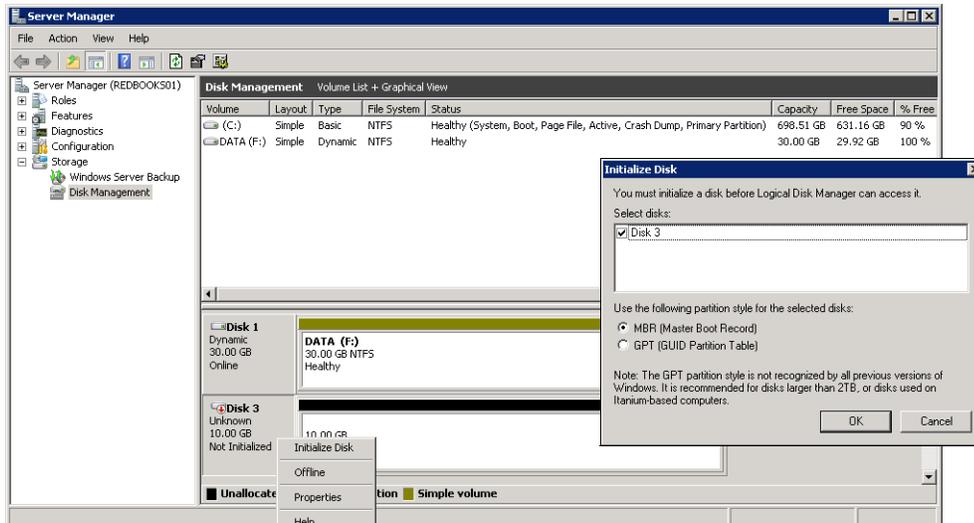

Figure 4-44 Identifying and Initializing new disks
- When we have the target disk devices *auto configured* in the iSCSI Initiator, we will be able to see them in the Disk Administrator management console, as shown in Figure 4-44. Right-click **Disk 3** → **Select Initialize**. A window will be opened; select the disk and click **OK** to continue.